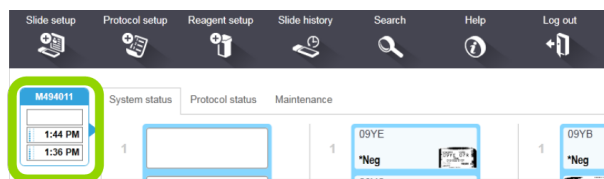

Figure 37: BOND RX screen with Processing Module icon indicated
5. Load the BOND Research Detection System onto the BOND RX/RX^m. The instrument will recognize containers and, depending on your Dip Test settings, may check container volumes. Once finished, you may click on the **Processing Module** icon (see Figure 37) to view the status of any of the containers in the **System Status** window. Right-click on the desired container and select **Inventory** to view the volume measured in the container. Refill if required.